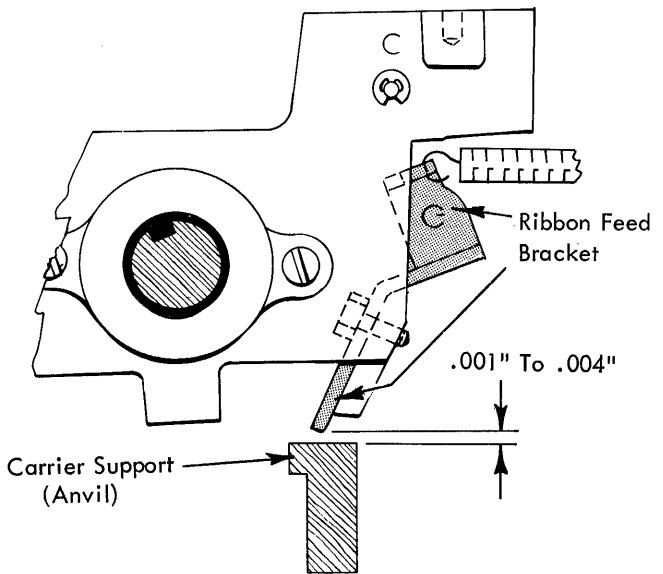

FIGURE 142.1 Carrier Support (Long Carriage Machines)
6. **Carrier Support (long carriage machines)** - Adjust both ends of the support vertically to maintain .001" to .004" clearance with the bottom of the ribbon feed bracket along the entire length of the writing line (Fig. 142.1).